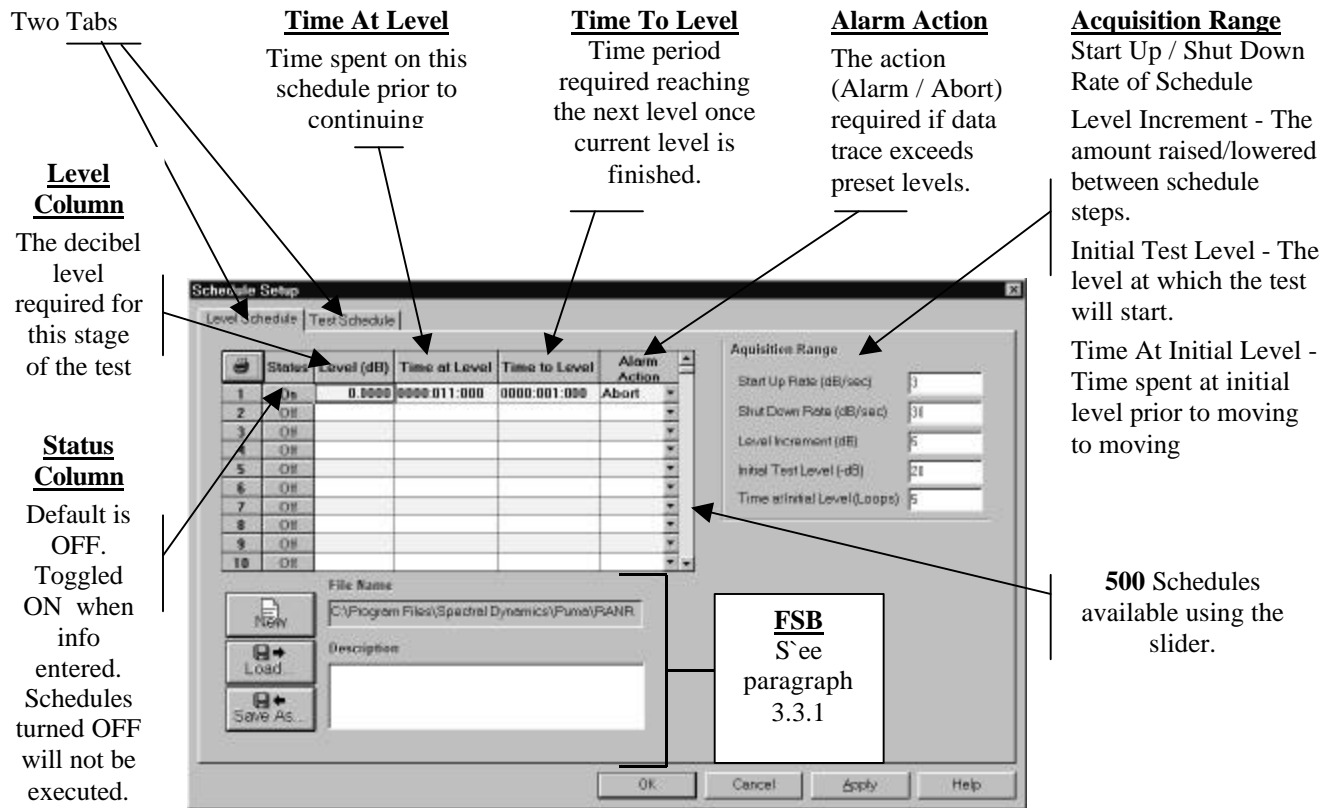

Figure 3-6. Schedule Setup`
5. Click **SETUP** ⇒ **SCHEDULES**. The Schedule Setup Window appears. See Figure 3-6.